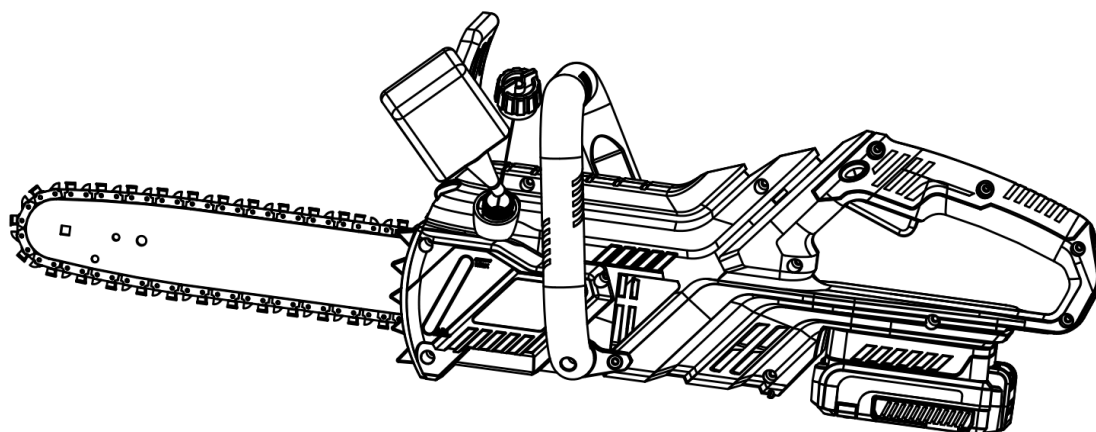

Figure 2
6. Then fill up the oil tank. After fill up, you must tighten the cap. (See **Figure 2**)